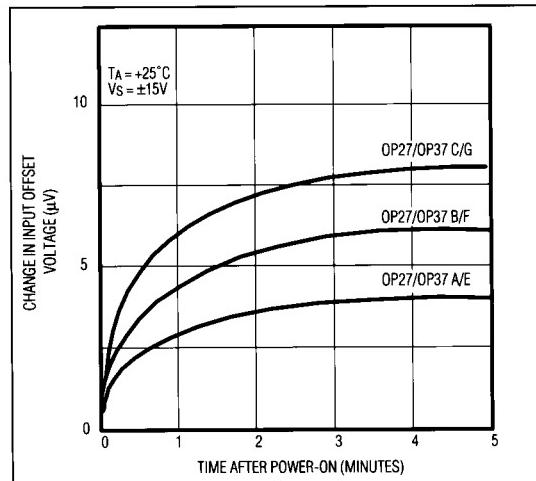

Figure 5. Warm-Up Offset Voltage Drift
1. The device must warm up for at least five minutes. Figure 5 shows how V_{OS} typically increases $4\mu\text{V}$ with increases in chip temperature after power-up. In the 10sec measurement interval, temperature-induced effects can exceed 10nV .